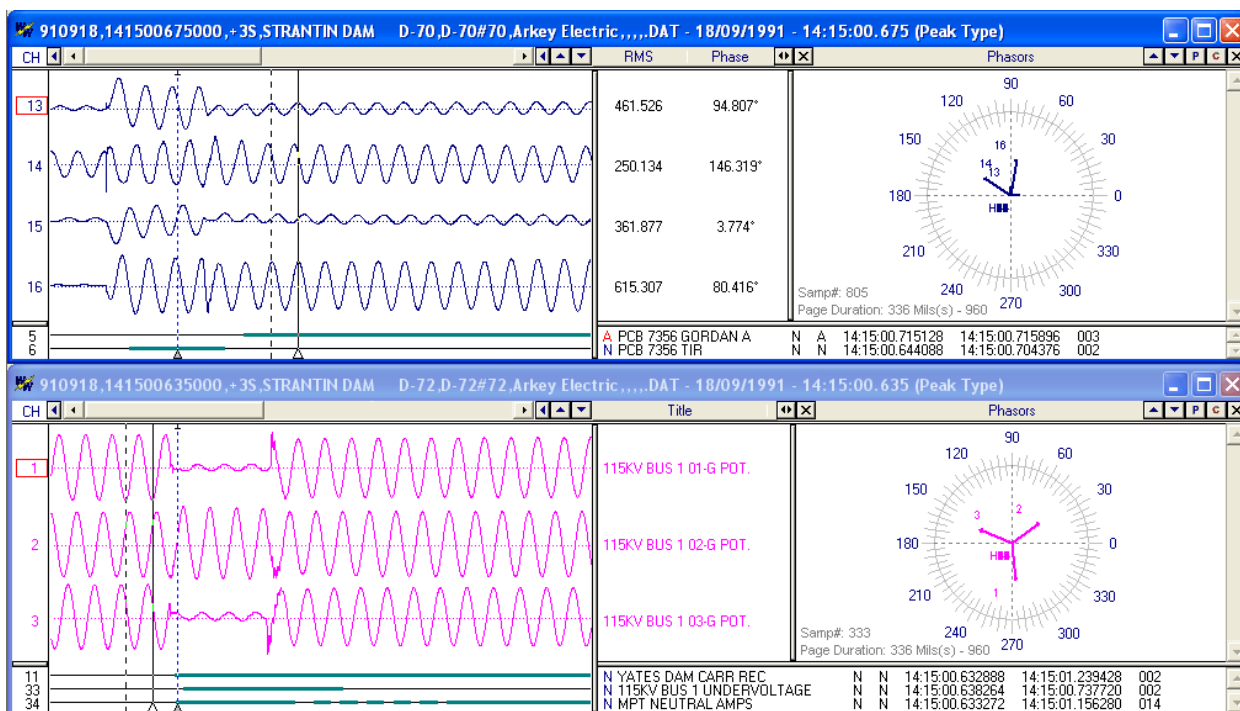

Figure 1.51 Merge Open Files – By Time: Open files and select channels to Merge
- By Time: Merge channel samples if they have a common time segment. The reference time is from the file with latest start date and time. The file with the least amount of samples determines the length of the new merged file. Refer to Figure 1.51 & 1.52.